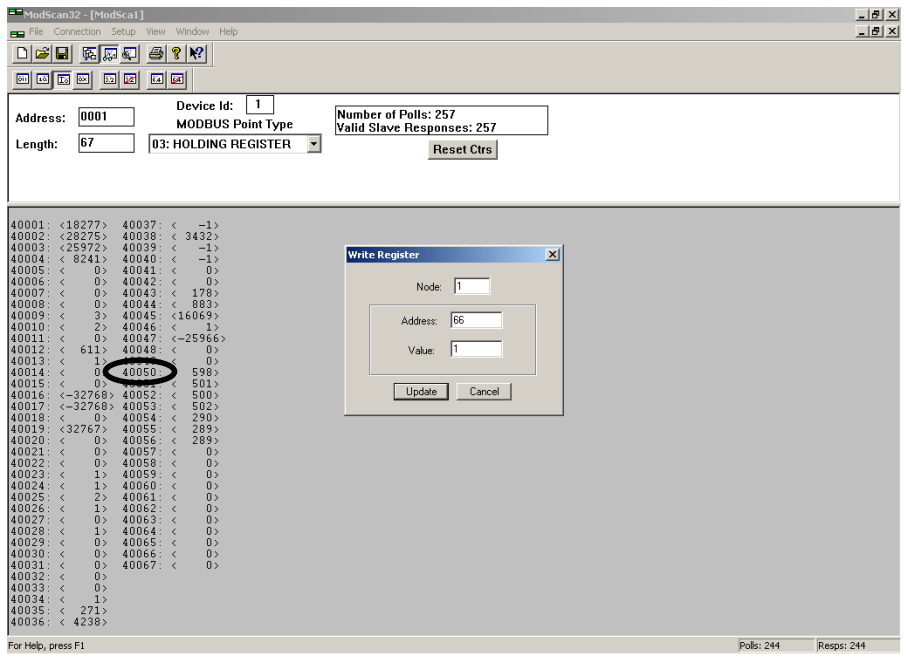

FIGURE 19. WRITE COIL DIALOG BOX
6. On the main ModScan menu (see Figure 19), change the Length to 49.
- To output a value from the ModLon to a network device, double click on register 40050. The Write Register dialog box is displayed (see Figure 19).